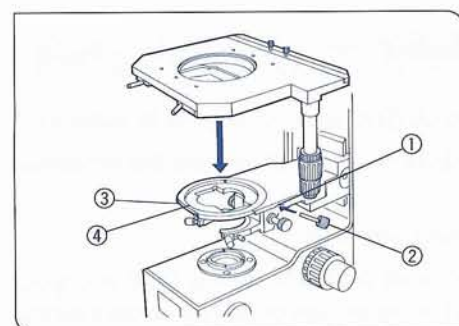

Fig. 3
(Figs. 3, 4, 5)
1. Adequately loosen in a counterclockwise direction the centering screw ① (2 portions) on the stage using attached centering tool.
2. Next, loosen the locking screw ③ with dedicated Allen screwdriver (3 mm).
3. Align the front pin of stage holder ④ attached to the ring with the groove of stage, gradually insert the stage, and rotate the stage centering screw ① for a few rotations. Then tighten the locking screw lightly. (Fig. 3)